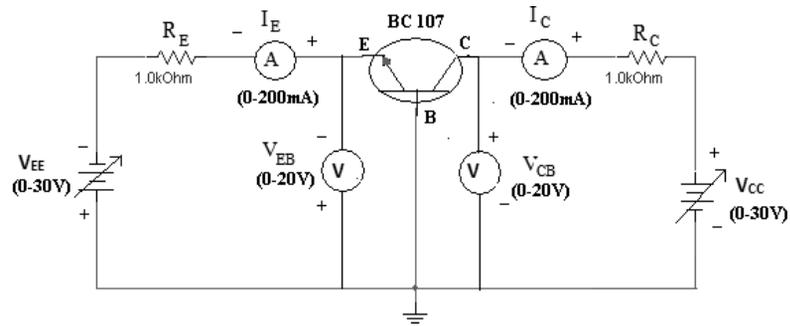

Figure 15.3: Circuit diagram of BJT in CB mode.
1. Connect the circuit as shown in figure 15.3